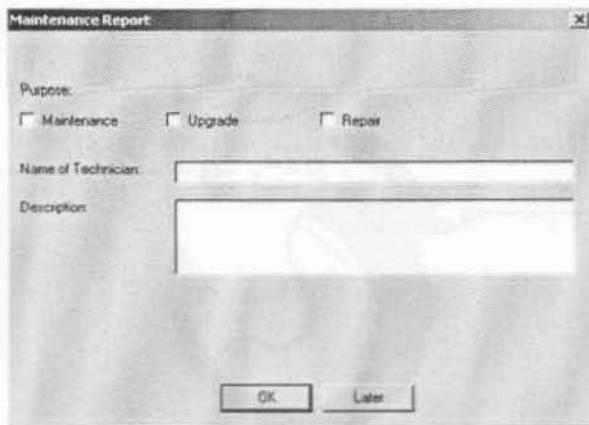

Figure 4-40 Maintenance Report
**NOTE:** After Hardware or Software modifications normally the "Maintenance Report" message box (Figure 4-40) appears automatically on the screen.